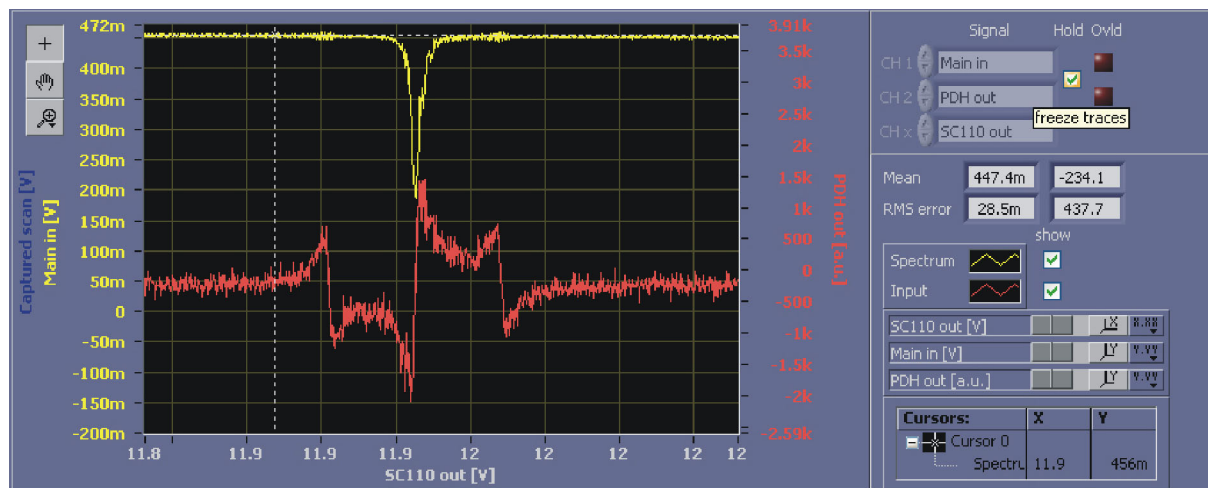

Figure 54 AutoLock display of the reflection signal of a Fabry-Perot cavity (upper yellow trace) with the corresponding PDH-signal (lower red trace)
The initial setup is the same as in the other examples, see section 10.1 steps 1 to 12. Once the spectroscopy signal is obtained, the following steps are analogous to the case of the Doppler-free absorption spectroscopy, see section 10.2 steps 13 and 14. Figure 54 shows the expected signal for scanning across a resonance of the cavity. It can directly be used for side of fringe locking analogous to section 10.2.1.
- 17a. To obtain an error signal, the modulation amplitude must be set. The amplitude is a trade-off between the signal-to-noise ratio and the tolerated frequency modulation of the laser¹⁵. The larger the amplitude the larger the error signal and the frequency modulation of the laser. Turn on the modulation and start to scan the laser with the **Scan** module. In Figure 54 the resulting Scope display (with optimized phase) is shown.